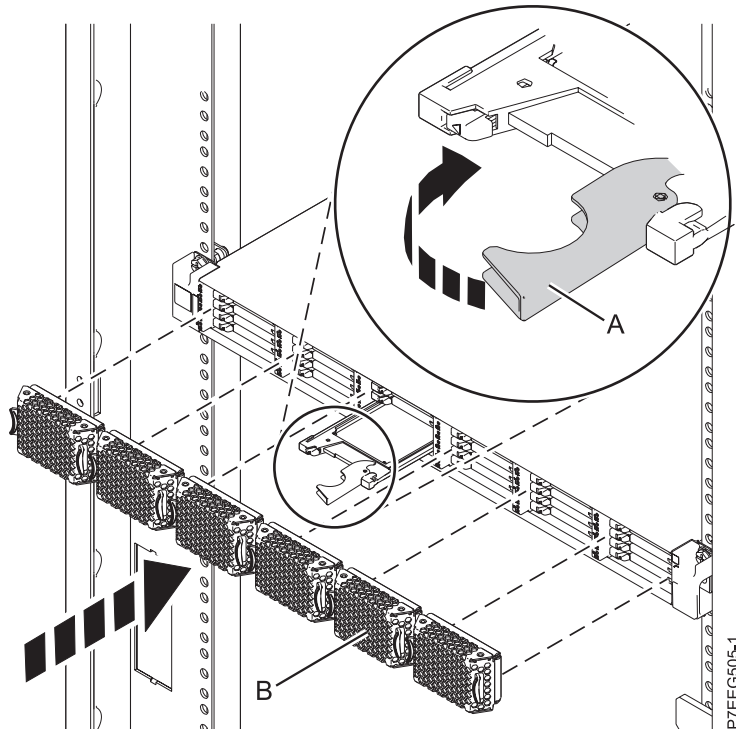

Figure 12. Installing a solid-state drive in the ED/R1 PCIe storage enclosure
1. With the handle in the unlocked position, align the solid-state drive with the guide rails in the enclosure. See Figure 12 on page 21,
3. Rotate the handle **(A)** to the locked position, as shown in Figure 12 on page 21.